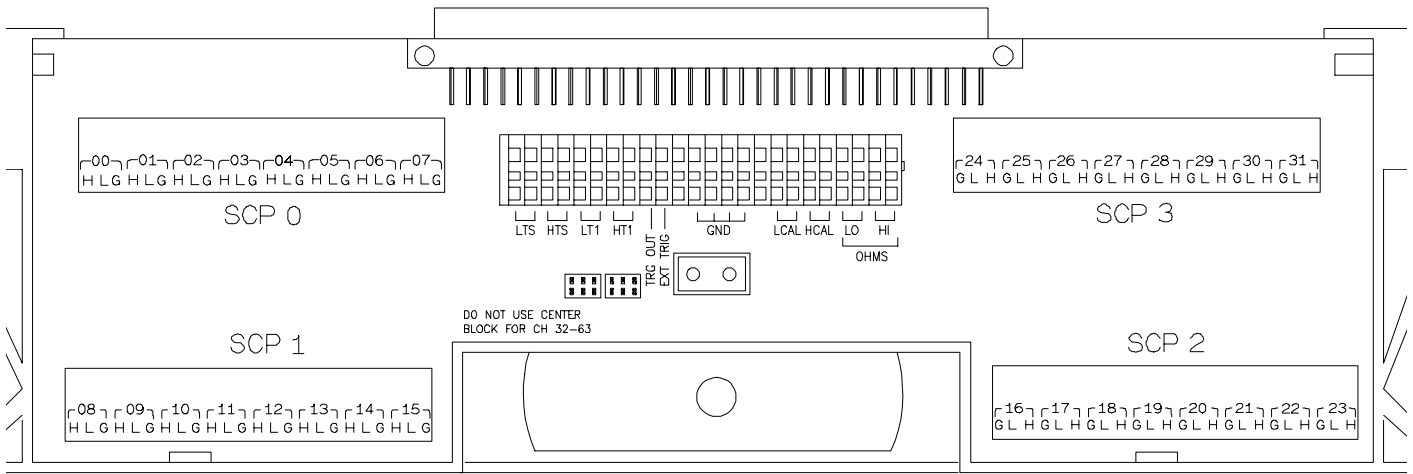

Figure 2 HP E1509 B-size Terminal Module Connections (Ch 00-31)
- For HP E1313 Terminal Modules, use stickers for HP E1509 SCPs. The connections are shown in Figures 2 and 3.